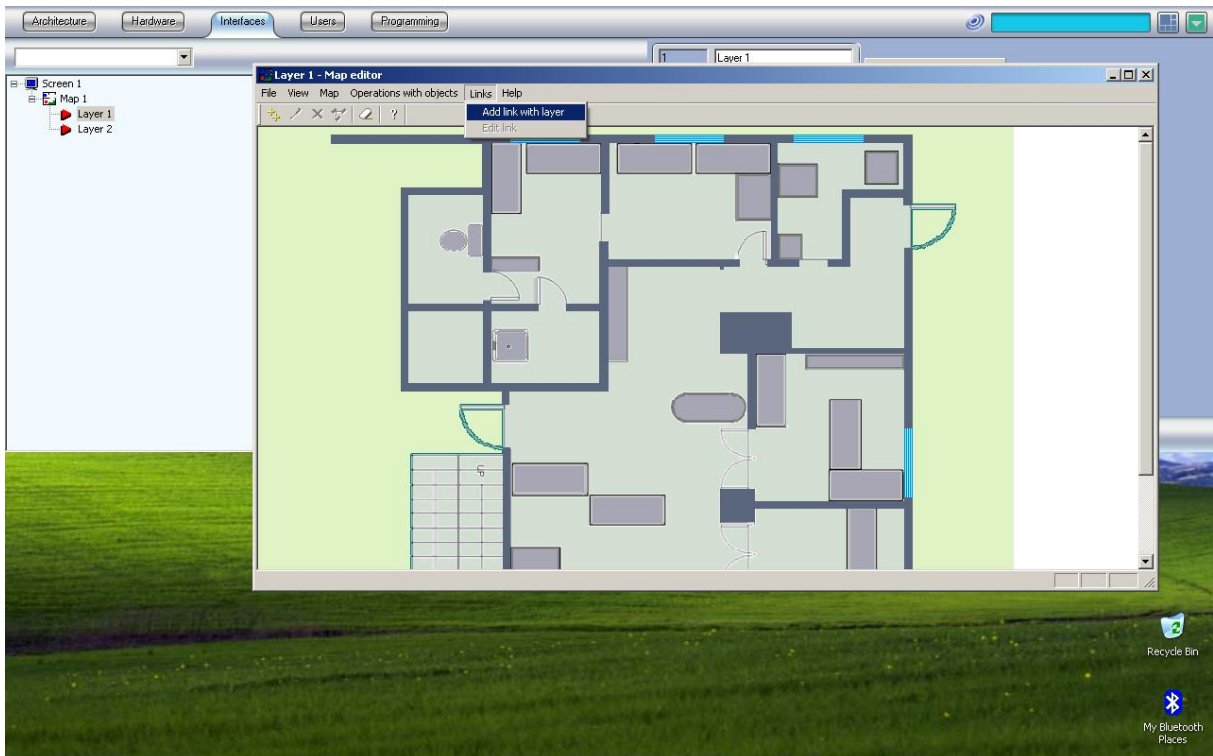
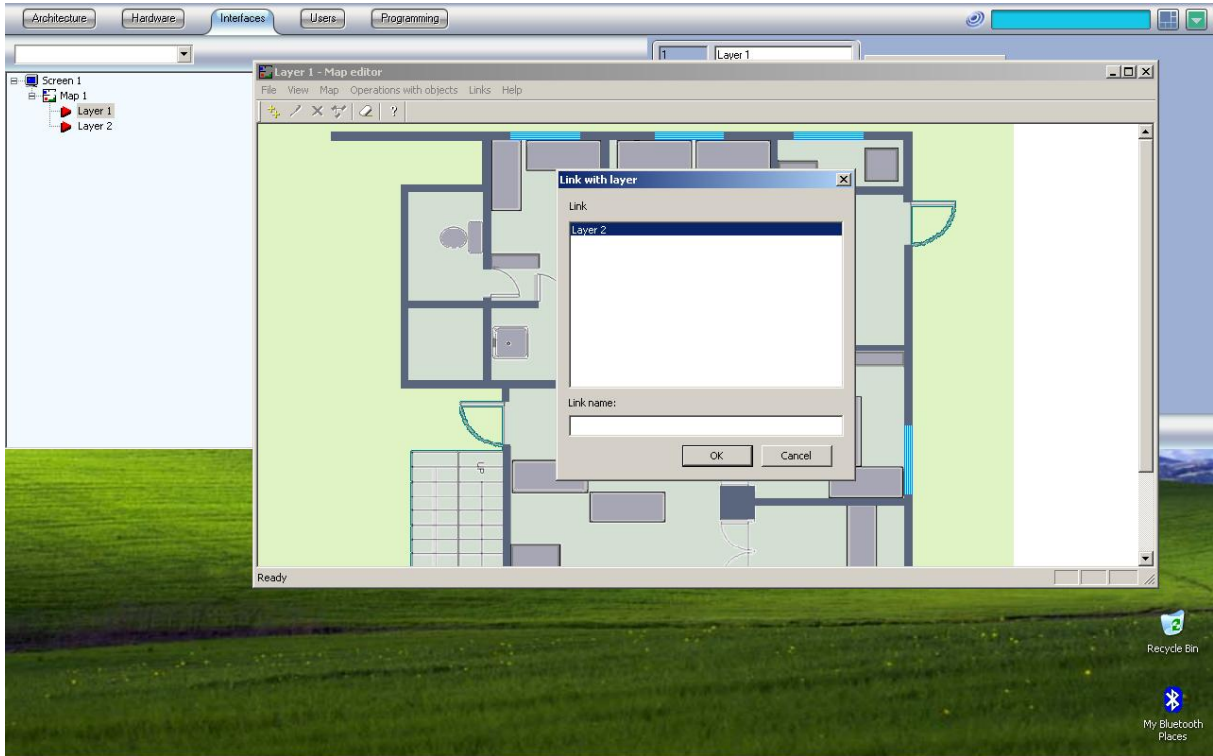

fig.25
fig.26
7) If you want to make a connection with other layers of the map this can be done from menu "Links → Add link with layers" (fig. 25). Then the window "Link with layer appears" (fig. 26).